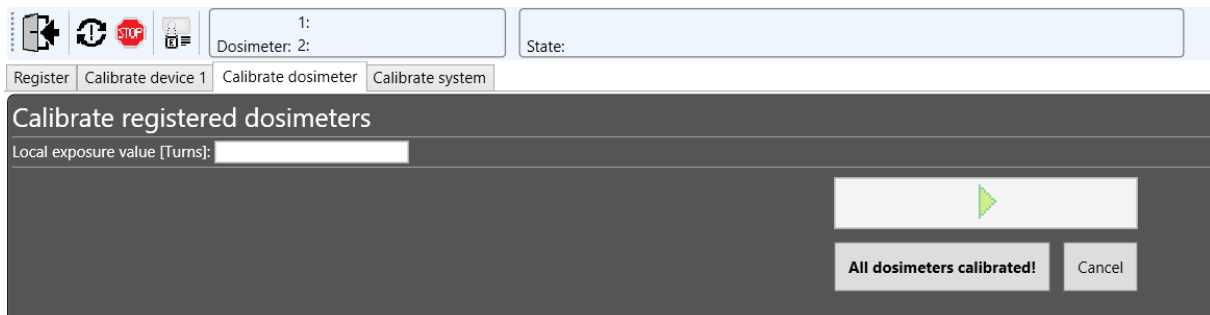

Figure 33 Calibrate registered dosimeter screen
- 4) If the dosimeters are registered and irradiated for calibration on site, "Without transport dosimeters" is chosen. Type in the Local exposure value and confirm with enter and click "Start" button to start the calibration and confirm when all dosimeters are calibrated (Figure 33)
- 7) If “Calibrate registered dosimeters” is chosen, type in the Local exposure value of the irradiated dosimeters and confirm with enter and click “Start” button to start the calibration and confirm when all dosimeters are calibrated (Figure 33)